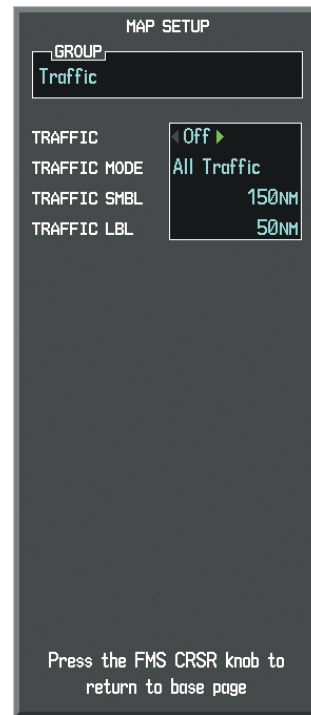

Figure 6-115 Navigation Map Page Setup Menu, Traffic Group
- 5) Turn the large **FMS** Knob or press the **ENT** Key to scroll through the selections (Figure 6-115).